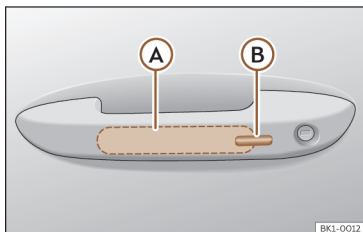

Fig. 72 Door handle: sensor surfaces.
>>> **Fig. 72**
- Touch the sensor surface (B) >>> **Fig. 72** on the outside of the door handle. All turn signals flash once.
- Within 5 seconds, touch the sensor on the outside of the door handle once >>> **Fig. 72** . Do not grip the handle while doing so. This temporarily deactivates the Keyless Access system.